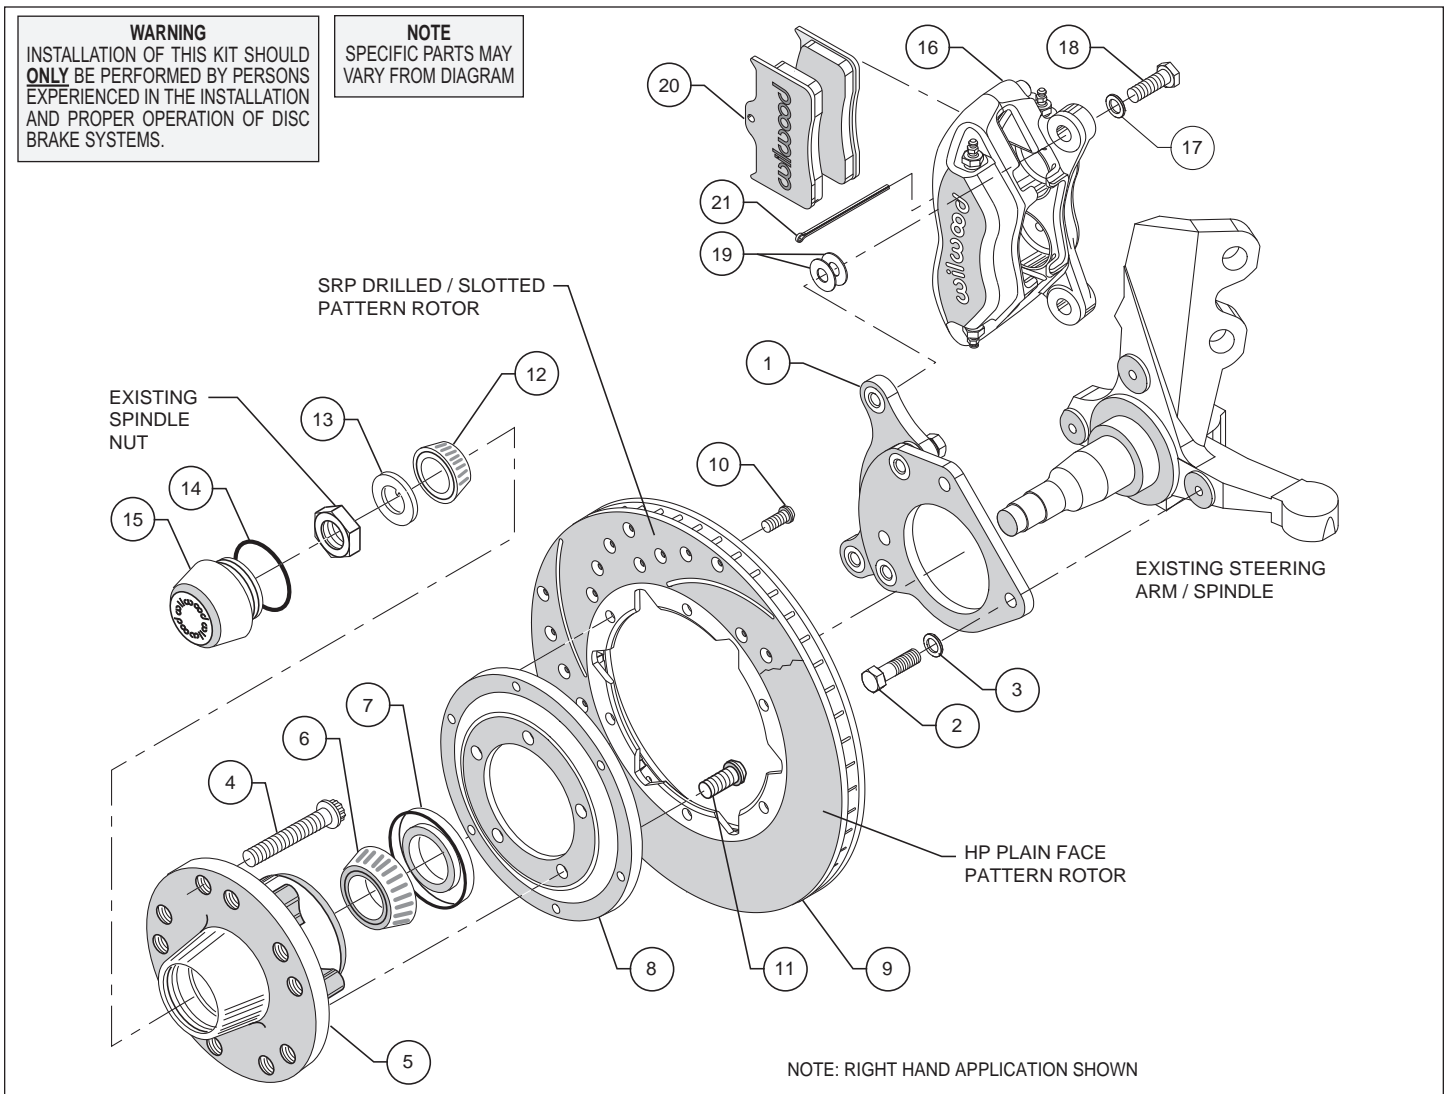

Figure 1. Typical Installation Configuration
**Assembly Instructions** (numbers in parenthesis refer to the parts list and Figure 1 on the preceding pages): **CAUTION:** All mounting bolts must fully engage clinch nuts. Be sure to check that all bolts are either flush or protruding through flanged side of clinch nut after shimming, Figure 3.
- Align caliper mounting bracket (1) with the corresponding holes, to the face of the spindle and attach using bolts (2) and washers (3), as shown in Figure 1 and Photo 2. Temporarily tighten the mounting bolts. Ensure that the flanged heads of the clinch nuts in the bracket are facing outboard, Photo 2. **NOTE:** The bracket must fit squarely against the mounting points on the spindle. Inspect for interference from casting irregularities, machining ridges, burrs, etc. Remove bolts one at a time, apply red Loctite® 271 to the threads, and torque to 40 ft-lb.
- Orient the rotor (9) and the rotor adapter (8) as shown in Figure 1 and Photo 5. Attach the rotor to the adapter using bolts (10). Using an alternating sequence, apply red *Loctite*® 271 to the threads, and torque to 25 ft-lb.
- Mount the adapter/rotor assembly (8/9) to the hub (5) using bolts (11), as shown in Figure 1 and Photo 6. Using an alternating sequence, apply red *Loctite*® 271 to the threads, and torque to 45 ft-lb.
- NOTE:** Please reference the caution statement at the beginning of the assembly instructions. Mount the caliper (16) onto the caliper mounting bracket (1) using bolts (18) and washers (17), as shown in Figure 1. Initially place two .035" thick shims (19) on each bolt between the caliper and the bracket, Photo 9. Temporarily tighten the mounting bolts and view the rotor (9) through the top opening of the caliper. The rotor should be centered in the caliper, Photo 10. If not, adjust by adding or subtracting shims between the bracket and the caliper. Always use the same amount of shims on each of the two mounting bolts. **NOTE:** The end of each bolt must be flush with or slightly protruding from the head of the clinch nut, as shown in Figure 3. If necessary place spare shims between washer (17) and caliper mounting ear to achieve the proper clinch nut engagement. Once the caliper alignment and clinch nut engagement are correct, remove the bolts one at a time, apply red *Loctite*® 271 to bolt threads, and torque to 40 ft-lb.